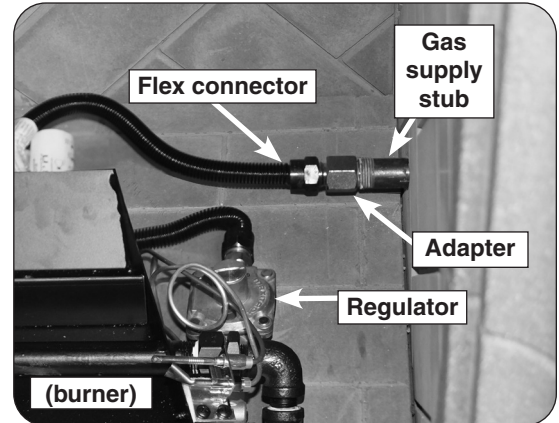

Fig. 15-1 Connect burner to gas supply
2. Locate the gas-supply stub inside the fireplace and remove the cap, if attached (reference Fig. 15-1).
4. **Be sure gas to the fireplace is off.** Remove the adapter connected to the flex connector (pre-installed on the burner system). Attach the adapter to the gas-supply stub using a pipe compound resistant to all gasses. Tighten securely. Then attach the open end of the flex connector to the adapter. Tighten securely (see Fig. 15-1).